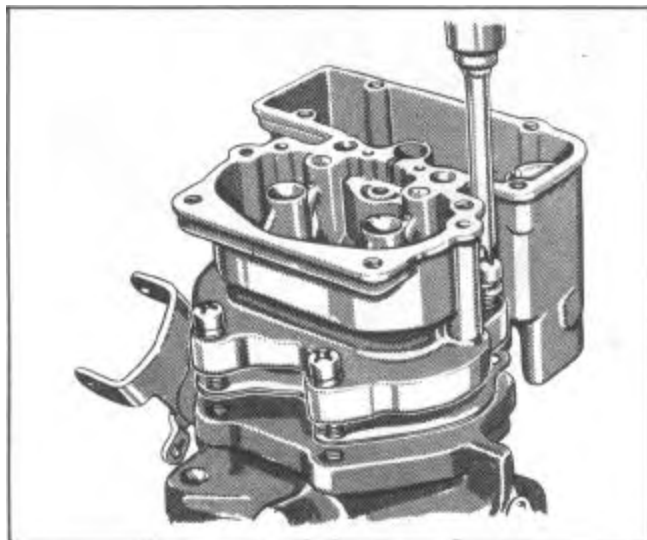

FIGURE 70
6. Assemble body casting to flange, Figure 70. (Use new gasket.)